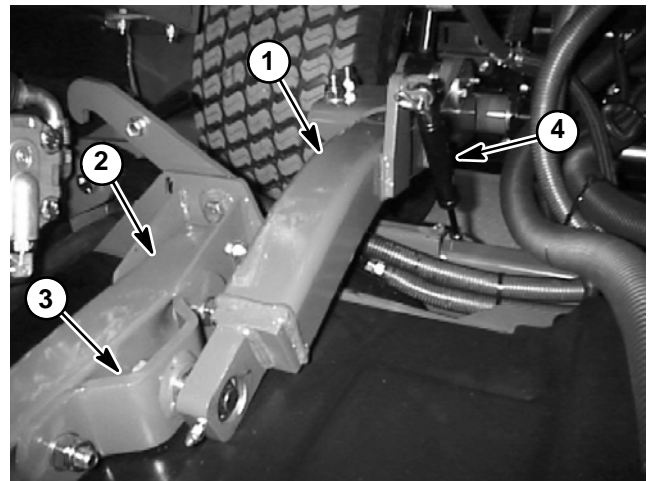

Figure 3
4. Remove hairpins and clevis pins that secure dampers to lift arms (Fig. 3). Rotate dampers and place on cutting deck.
7. Remove cap screws, flat washers and flange nuts that secure support hubs to cutting deck castor arms (Fig. 3).
3. Align support hub to cutting deck castor arms and secure with cap screws, flat washers and flange nuts (Fig. 3). Torque flange nuts from **75 to 85 ft-lb (102 to 115 N-m)**.
7. Position dampers to lift arms. Install clevis pins and hairpins to secure dampers to lift arms (Fig. 3).